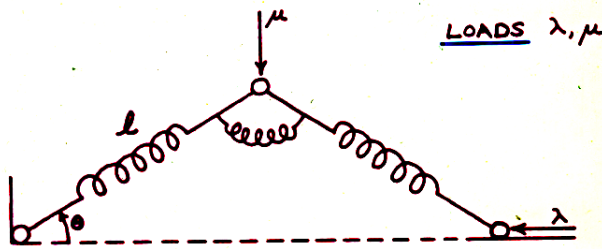

Figure 1: The Buckling Spring
1.) *The Buckling Spring*: Two straight springs and a circular spring are arranged as in Figure 1. The two straight springs are naturally of length 1, but are currently length L . The left spring has an endpoint fixed at the origin, and the angle that the left spring makes with the x -axis is θ . The right spring endpoint is free to move horizontally.